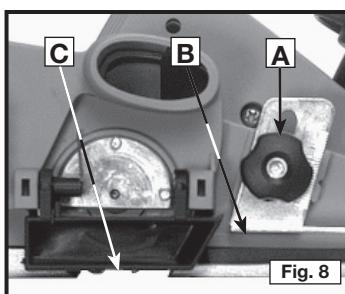

Fig. 8
Loosen the knob (A) Fig. 8. Adjust the depth stop. The desired depth of the finished rabbet should be equal to the distance from its bottom surface (B) Fig. 8 to the bottom of the rear shoe (C) Fig. 8 ($7/8"$ maximum). Adjust the fence to expose a portion of the cutter equal to the width of the desired rabbet. Set the depth adjustment knob to the depth of cut desired in each pass ($1/8"$ maximum).